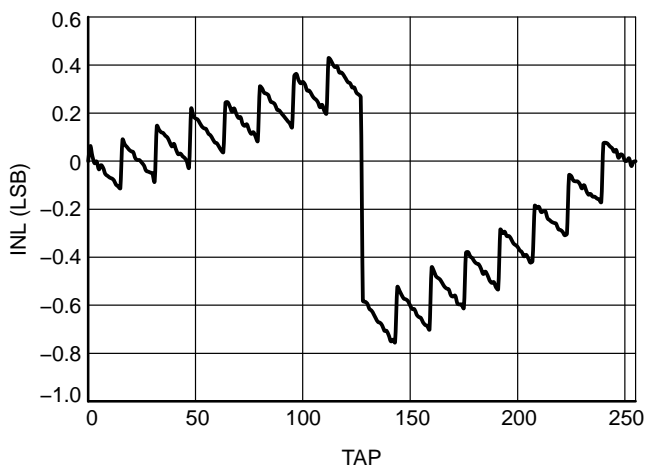

Figure 2. Average Integral Non-Linearity (V_{CC} = 2.4 V) Voltage Divider Mode
4. LSB = $R_{TOT} / 255$ or $(R_H - R_L) / 255$, single pot. For mid-scale detail, please refer to corresponding graphs shown in Figures 2, 3, 4, and 5.